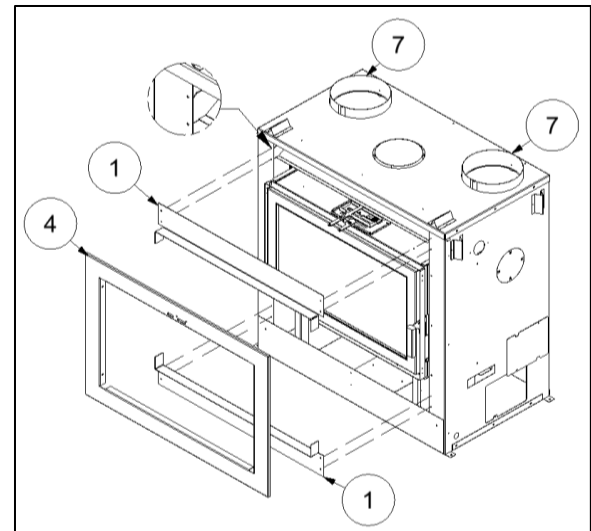

Figure 3-13: Clean Face Surround Installation
2. Align the bottom Clean Face front cover (Item 1) and fasten it in place (Figure 3-13).
3. Align the top Clean Face front cover (Item 1) and fasten it in place (Figure 3-13).
- The intake swivel covers at the bottom sides must remain open for all Clean Face installations. Refer to Figure 3-13.